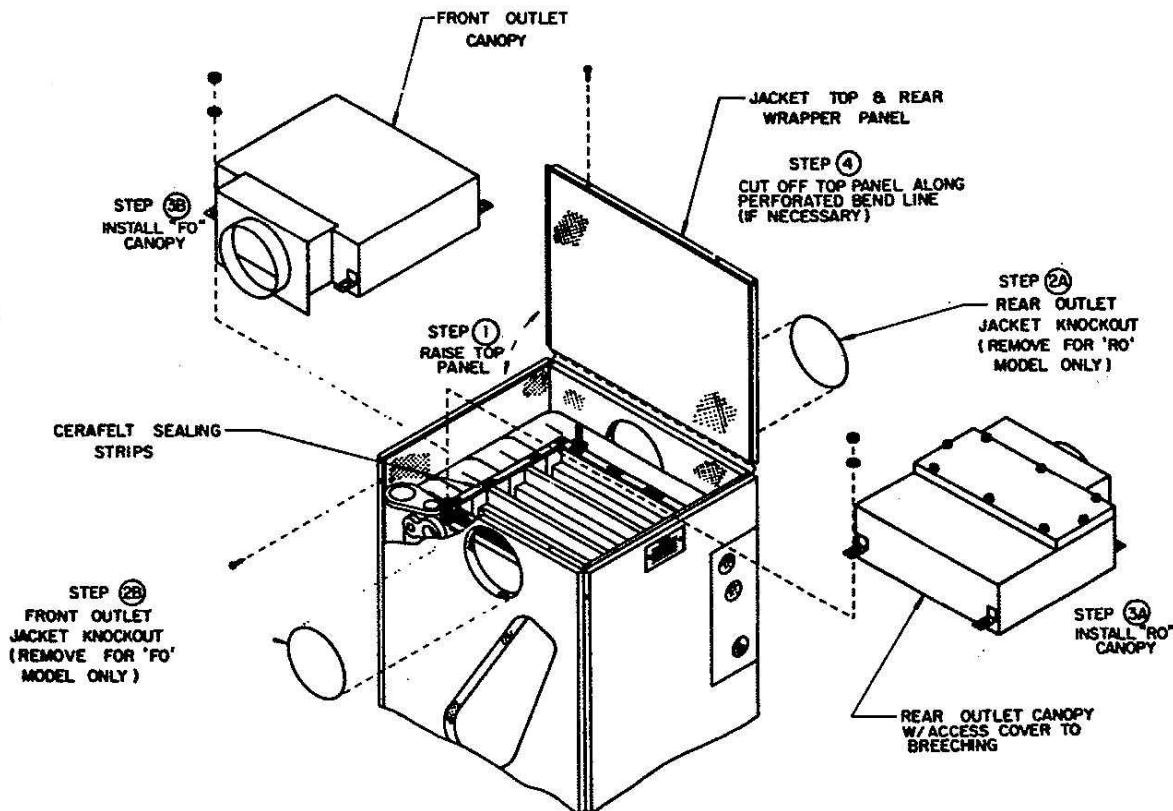

Figure 3: Installation of Canopy (See text for proper procedure)
2. Remove two (2) sheet metal screws securing front of jacket top panel and (2) sheet metal screws near the top of both side panels. Pull side panels outward to allow jacket top panel to swing upward as shown in Figure 3, Step 1.
4. Using screwdriver and pliers, remove the 6½" knock out from the rear panel, AS SHOWN IN Figure 3, Step 2.
5. Insert the canopy onto the top of the block and fasten with the four (4) bolts and nuts provided as shown in Figure 3, Step 3. Be sure that the canopy tightens evenly onto the cerafelt gasket.
6. Before replacing jacket top panel, determine if future access to the chimney breeching through the canopy opening is anticipated. If so, cut along perforated bend line to separate jacket top panel from the rear panel as shown in Figure 3, Step 4. Close or replace top panel and secure with sheet metal screws removed in Step 2 above.